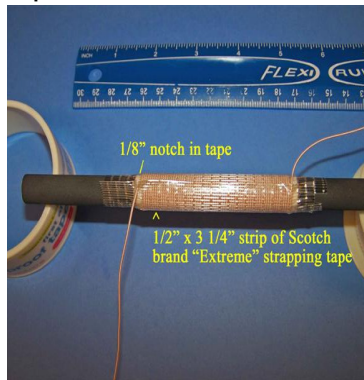

Figure 13
tape strip (as shown in Figure 13). Position the ferrite rod so that the Litz wire lead on the left side of the coil is in the position shown (extending toward the front of Figure 13) Take the tape strip and carefully position it so that the short notch holds the left side Litz wire lead in place, with the tape parallel with the ferrite rod (as shown). Ensuring that the tape strips remain parallel and that the left Litz wire lead comes out of the coil in a straight manner (with no severe bends or kinks), carefully overlap the lower edge of the first tape strip (secured in the previous step) for a length of 1/8" (3 mm), then slowly press the tape strip down over the coil, finally overlapping the upper edge of the first tape strip to completely cover the coil with a waterproof surface.
15) Refer to Figure 13. Take the remaining 1/2" (13 mm) wide strip of "Extreme" tape and with the adhesive side facing down, cut a 1/8" (3 mm) notch into the top edge 1/2" (13 mm) from the left edge of the